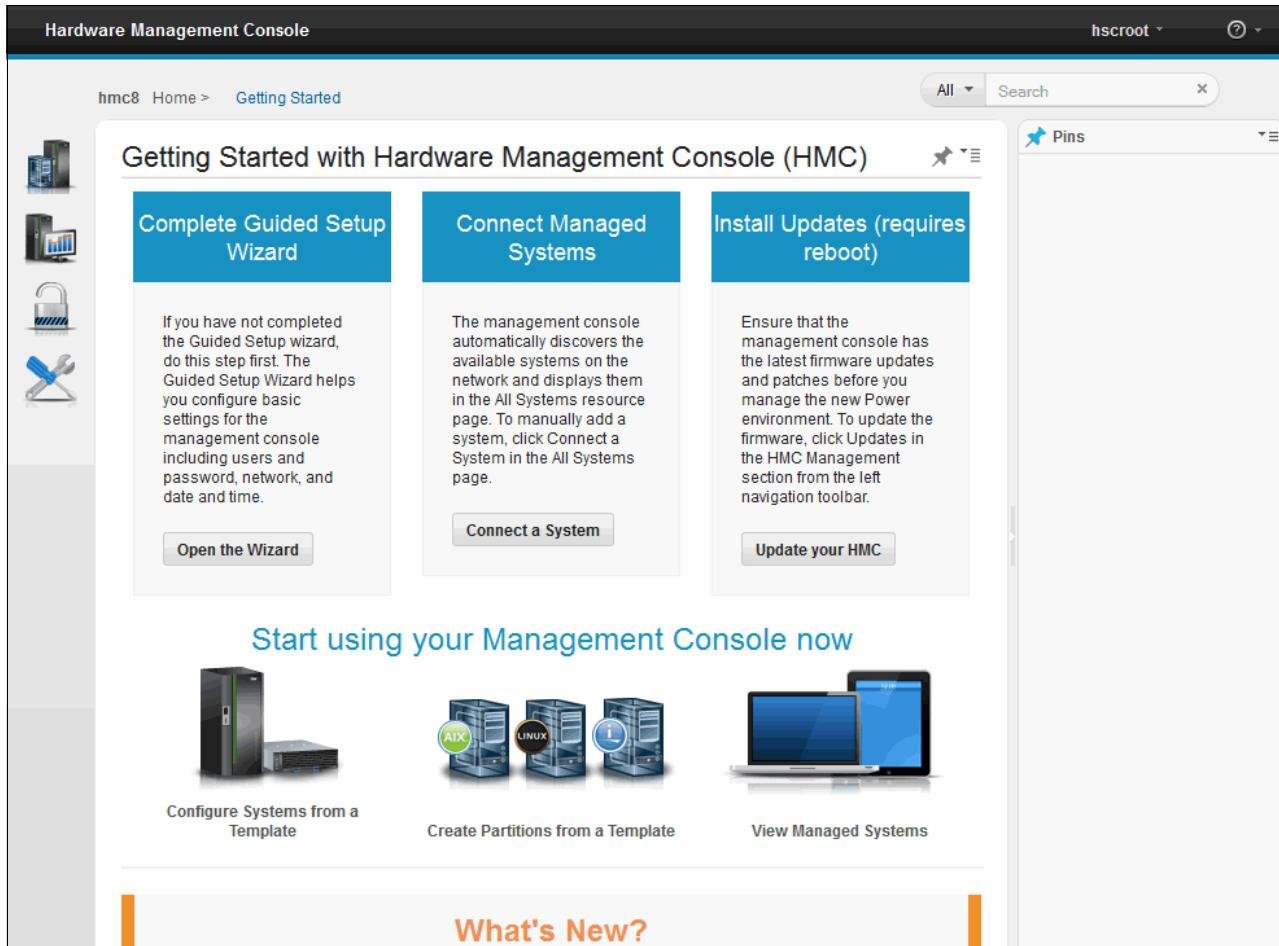

Figure 5-5 Getting Started with HMC
- When you first log in to the HMC V8R8.4.0, the Getting Started with HMC panel opens (Figure 5-5).